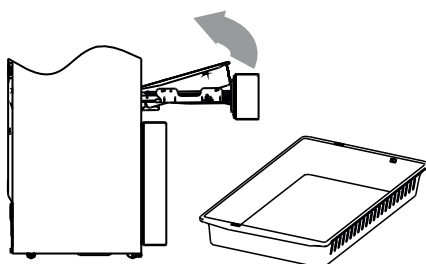

Figure 4
- 2) Lift the near end of the tray by grasping both sides, one in each hand. See Figure 4.